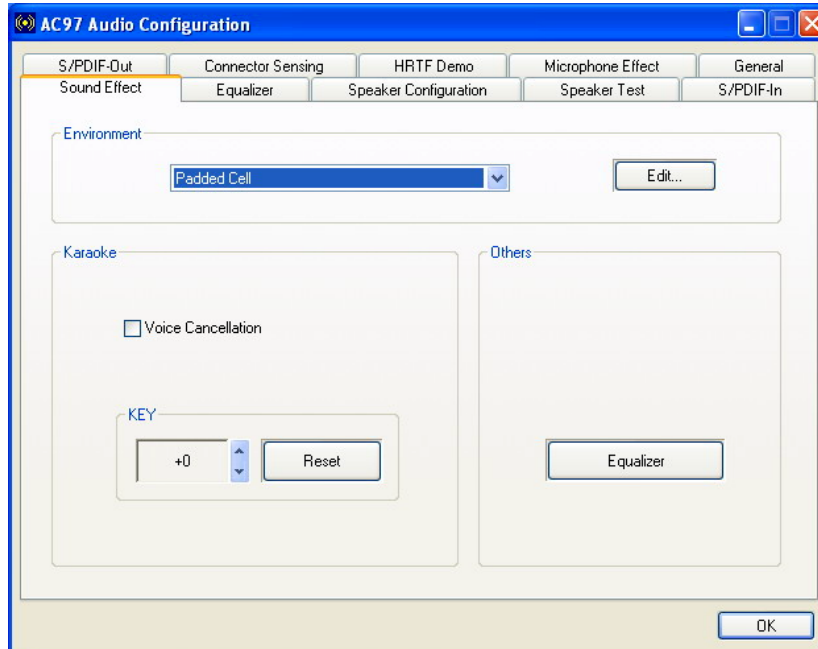

Figure 6-30: Sound Effects Manager (ALC655)
Step 3: The sound effect manager appears. (See **Figure 6-30**)
The Sound Effect Manager shown in **Figure 6-30** is for the RealTek ALC655 audio CODEC. Different CODECs may have different sound manager appearances.
The **Sound Effects Manager** enables configuration of the items listed below. To configure these items click the corresponding menu tab in the **Sound Effects Manager** in **Figure 6-30**.